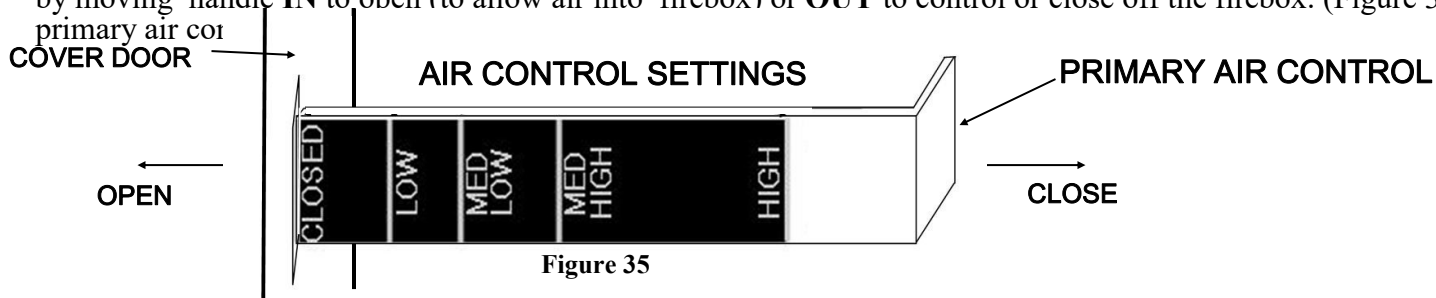

Figure 35
2. Open primary air control. Primary air intake draft control is located at center bottom side of hearth. It is operated by moving handle **IN** to open (to allow air into firebox) or **OUT** to control or close off the firebox. (Figure 35